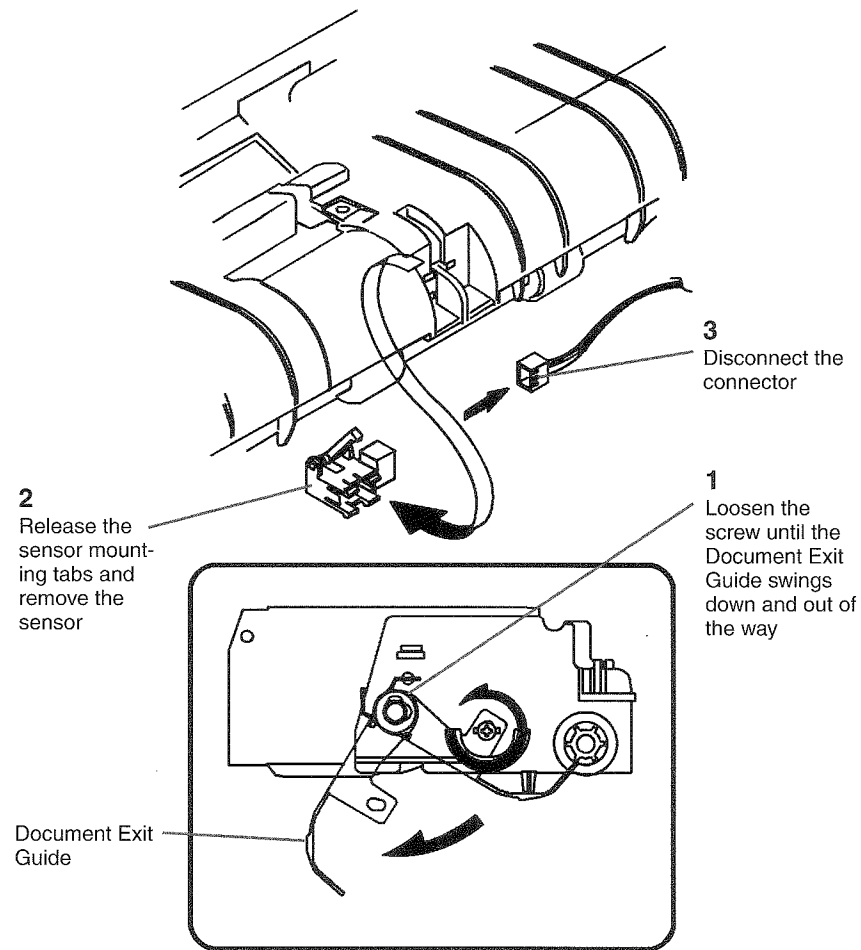

Figure 5 Removing the Document Path Sensor
6. (Figure 5): Remove the Document Path Sensor.